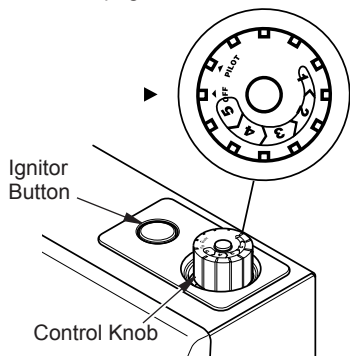

Figure 20 - Control Knob in the OFF Position
4. Wait five (5) minutes to clear out any air. Then smell for gas, including near the floor. If you smell gas, STOP! Follow "B" in the safety information above. If you do not smell gas, go to the next step.
5. Turn control knob counterclockwise ↶ to the PILOT position. Press in control knob for five (5) seconds (see Figure 20).